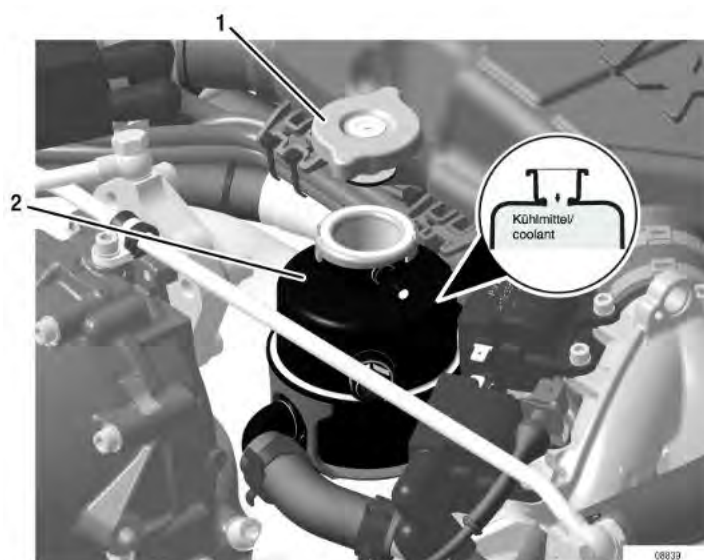

FIGURE 16-36
3. Open the radiator cap (1) on the expansion tank (2), shown in Figure 16-36.
10. Fill the expansion tank until the cooling system is full (see Figure 16-36), then install the radiator cap.